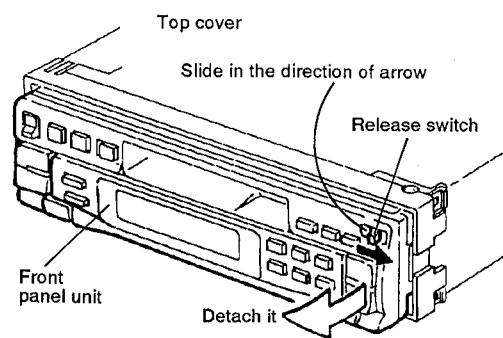

Fig. 4-1
- ◆ Detaching the front panel unit (See Fig. 4-1)